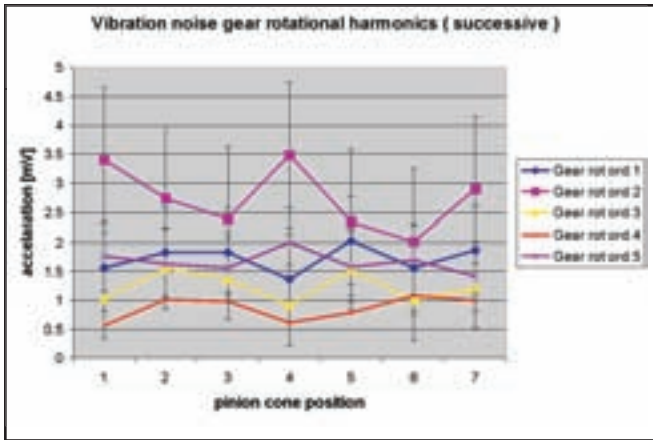

Figure 12—Gear rotational harmonic analysis of vibration noise signal; checking method successive.
To prove the known fact, that vibration noise analysis is not a feasible method to detect the rotational harmonic contents in reference to the gear, gear rotational harmonics were extracted from the measured signal by FFT detection. As expected, the quality and repeatability of the result was not suitable to give any indication because the range of the measured signals (see Fig. 12) was wider than the averaged signal itself. This is mainly due to factors as explained in the section *Vibration noise check (VN)*.